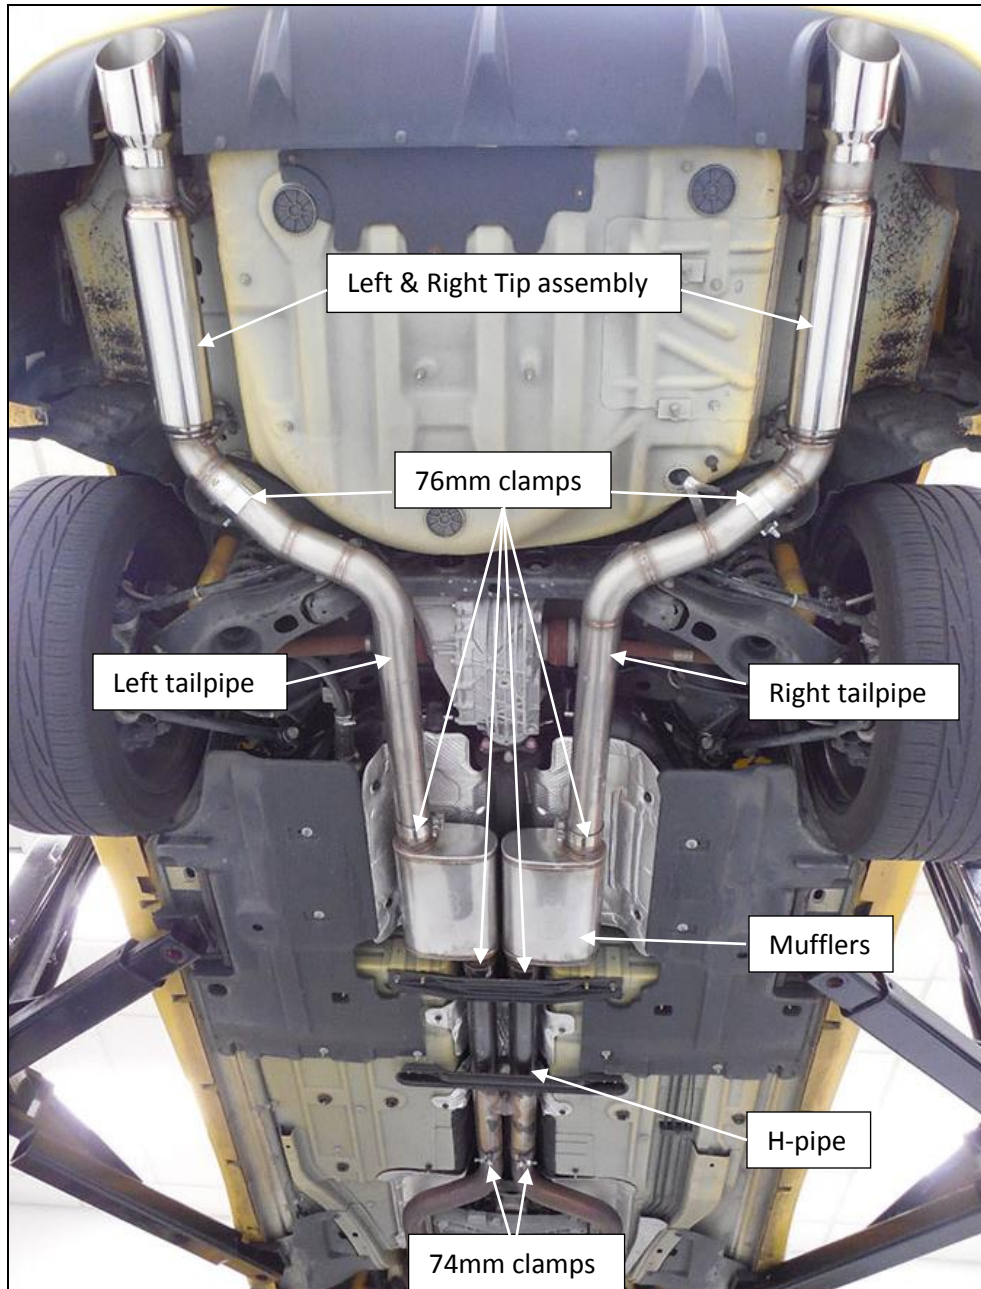

Figure 3
2. Install the (x2) 74mm band clamps on to the catalyst down pipes (bolt facing outward and on the bottom - same direction as the factory clamps - **Figure 3**).
10. Install the **Right side tailpipe** into the muffler or muffler delete pipe. Spray the isolator at the differential with WD-40® or equivalent and rotate the tailpipe hanger into the isolator. Tighten the clamp to allow for adjustment (**Figure 3**).
11. Install the **Left side tailpipe** into the muffler or muffler delete pipe. Spray the isolator at the differential with WD-40® or equivalent and rotate the tailpipe hanger into the isolator. Tighten the clamp to allow for adjustment (**Figure 3**).
12. Install a supplied 76mm band clamp over the outlet of each tailpipe (bolt to the outside and the nut facing down – **Figure 3**).
13. Install the right side tip assembly on to the tailpipe (**Figure 3**). Align the Isolator assemblies and install the bolts.
14. Install the left side tip assembly on to the tailpipe (**Figure 3**). Align the Isolator assemblies and install the bolts.